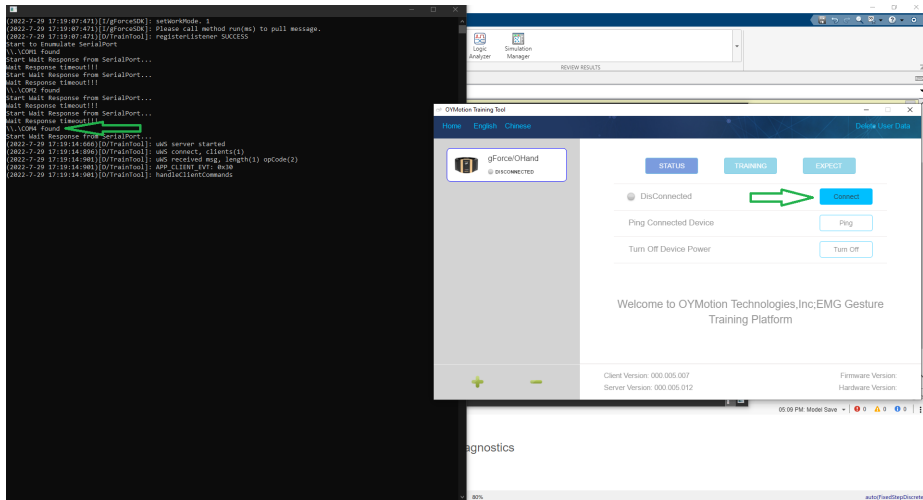

Figure 1: Device Connection
5. Wait for COM Enabling and save the COM number shown in the Terminal (Figure 1) .